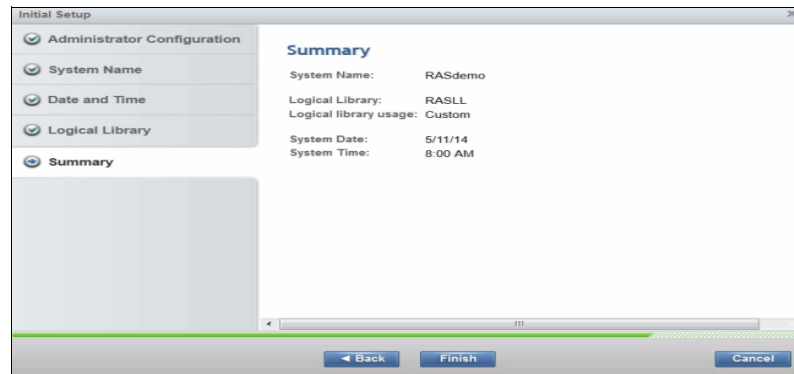

Figure 4-8 Summary
4. The window that is shown in Figure 4-8 displays a summary of all of the settings that were configured in the previous steps. Select **Finish** to complete the wizard and go to the main menu.